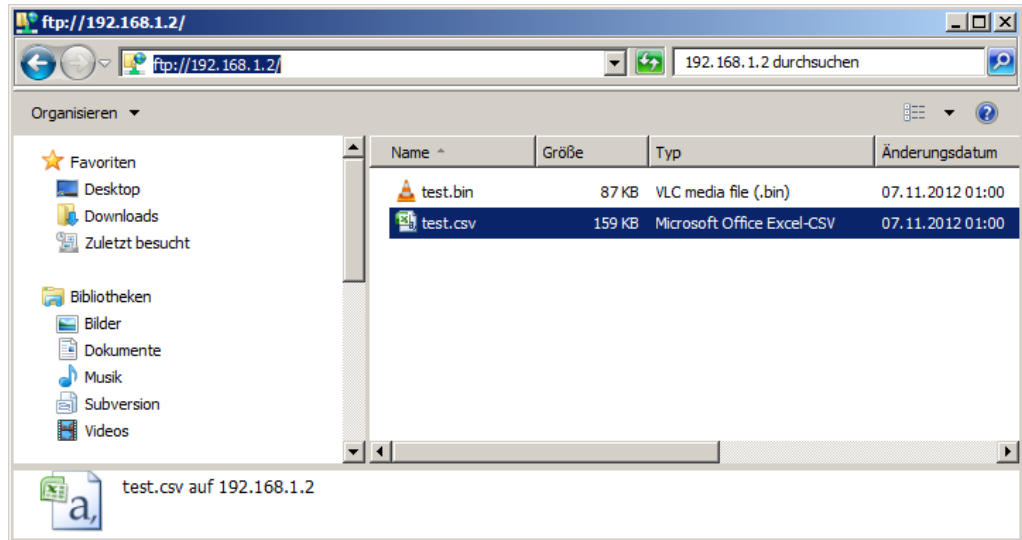

Figure 11: FTP-Server on Windows side
- ▶ Open an instance of Windows explorer (shortcut Win+E) and enter the destination address „ftp://192.168.1.2“ (see ▶Figure 11◀ on page 31) to the prompt.